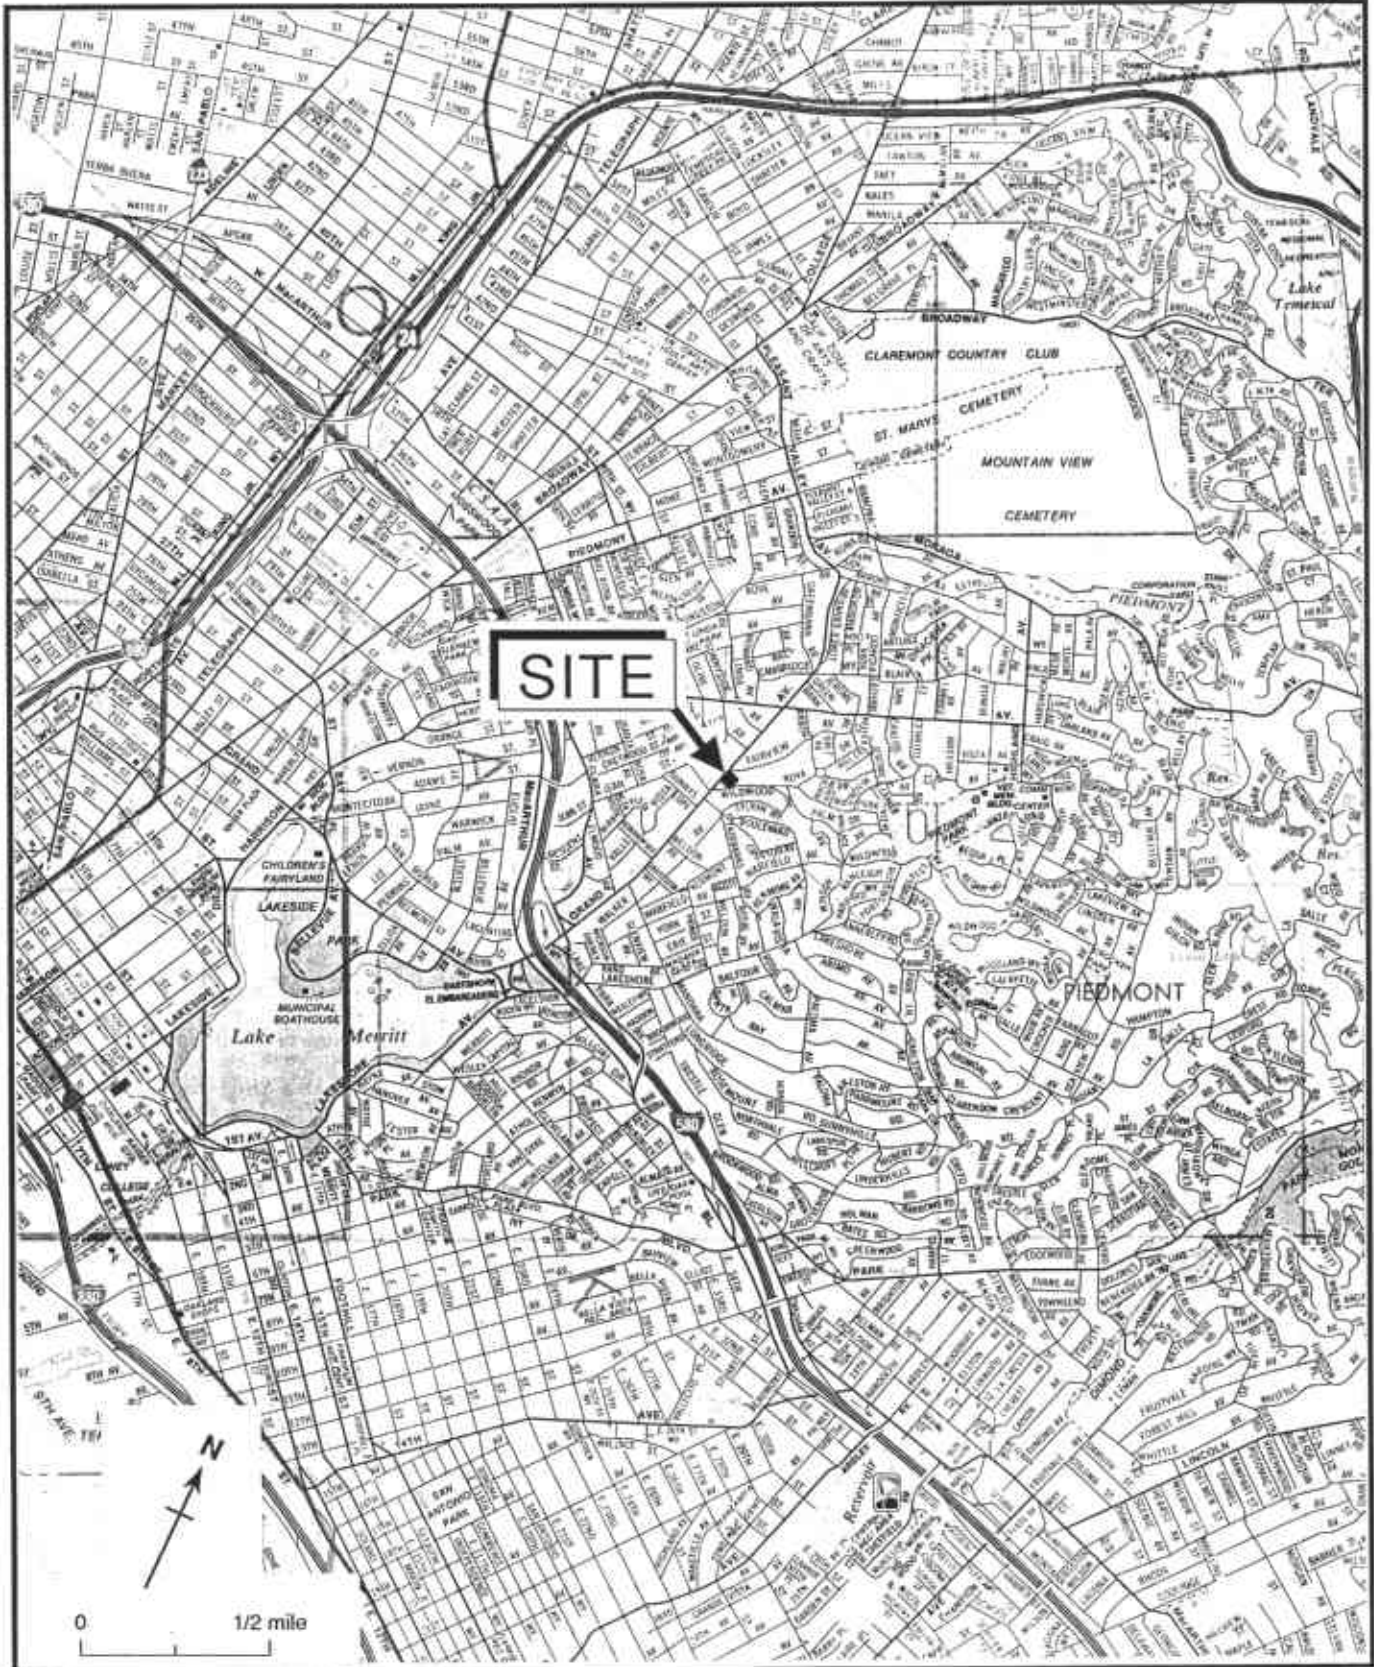

Figure 1. Site Location Map - Shell Service Station WIC #204-6001-0109, 29 Wildwood Avenue, Piedmont, California
This letter describes Weiss Associates' (WA) fourth quarter 1990 activities at the Shell service station referenced above (Figure 1.) This status report satisfies the quarterly reporting requirements prescribed by California Administrative Code Title 23 Waters, Chapter 3, Subchapter 16, Article 5, Section 265.d. Included below are: